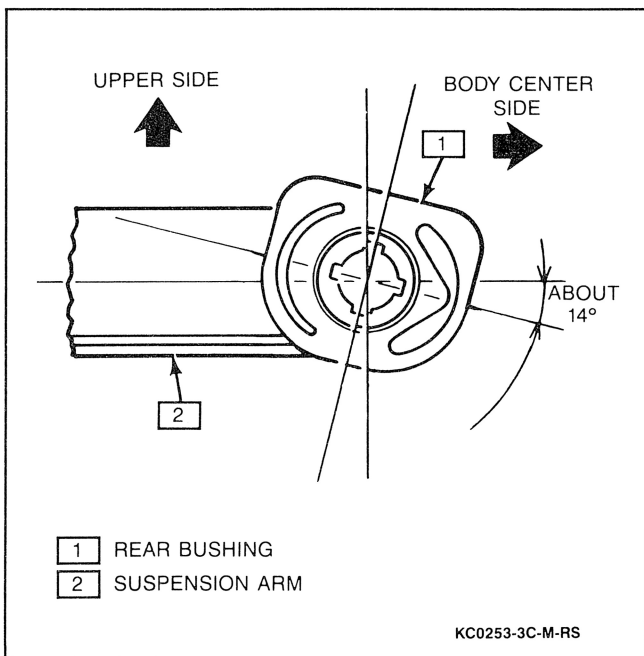

Figure 15 Rear Bushing Installation
- Drive rear bushing into position (Figure 15).